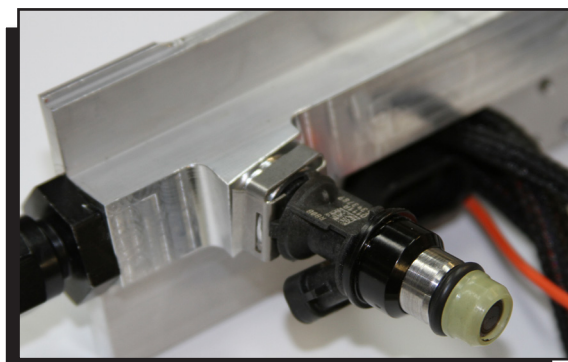

Figure 2
2. Lubricate the o-rings on the injectors with some motor oil or silicone lubricant. Install the injector retainer clips onto the injectors. The injector clips will automatically secure the injector to the fuel rail when they are inserted into the bung (Figure 2).
4. Lubricate the o-rings on the injectors with some motor oil or silicone lubricant and push the fuel injectors into the bung without forcing them on. The injectors should slide in easily. Use the injector clips to lock the injectors onto the fuel rails (Figure 2).